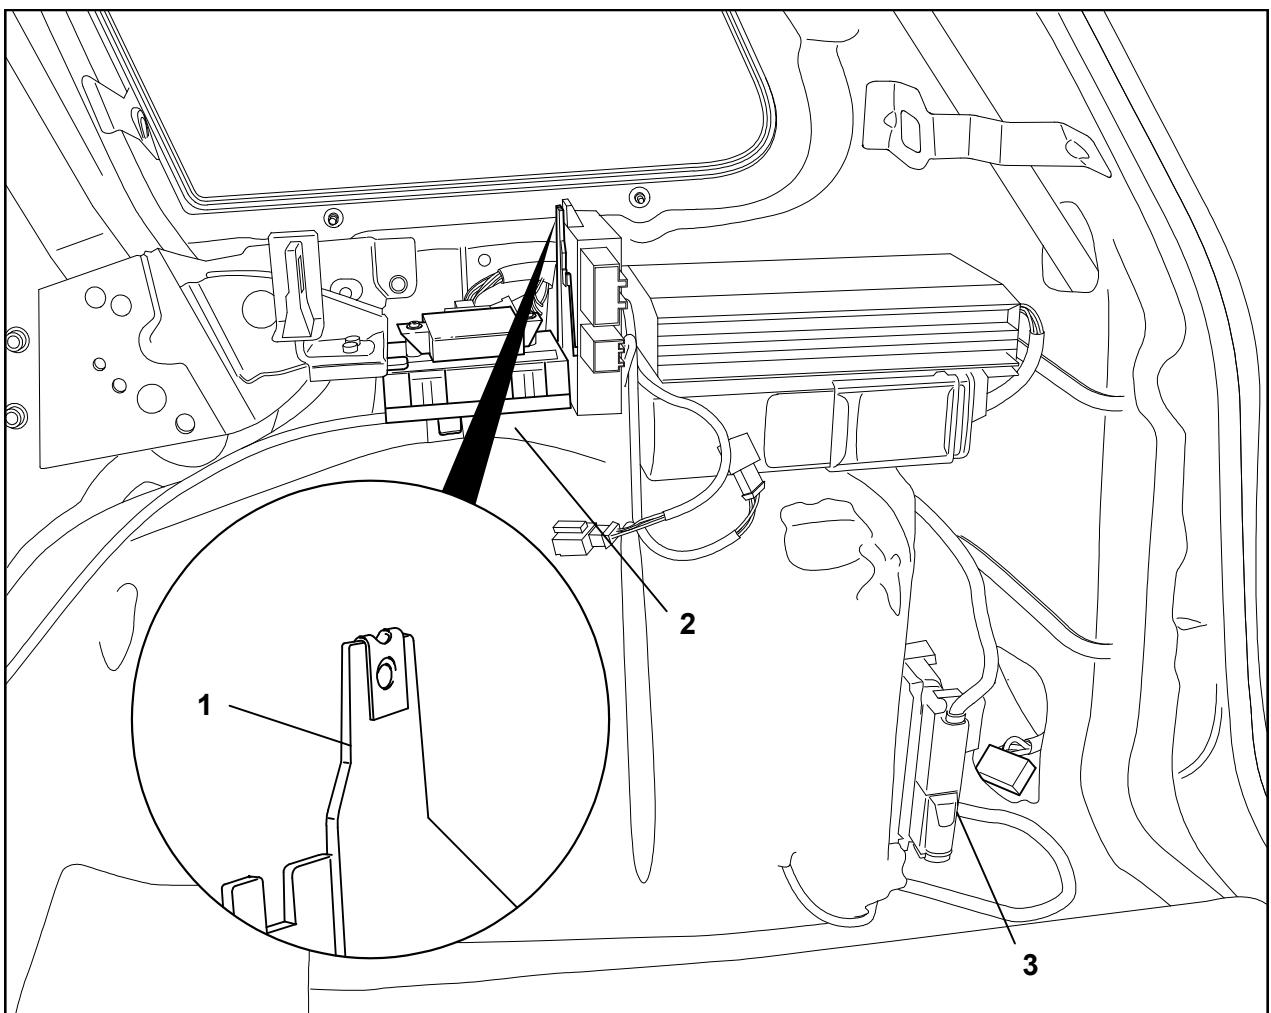

Fig. 3: Connecting Trailer Connection Unit
4. Route cable end with 16-pin black plug from outside through cable passage to device carrier (fig. 3/1).
9. Secure trailer connection unit to device carrier in right side of boot using the speed nut and hexagon screw (fig. 3/1).
12. Screw brown cables with the two ring contacts to vehicle ground point at rear right in area of coupling point (fig. 3/3).
13. Undo securing screw at bottom of device carrier for vehicle-fitted rear control unit 7L0 959 933A (fig. 3/2) and pull device carrier carefully forwards.